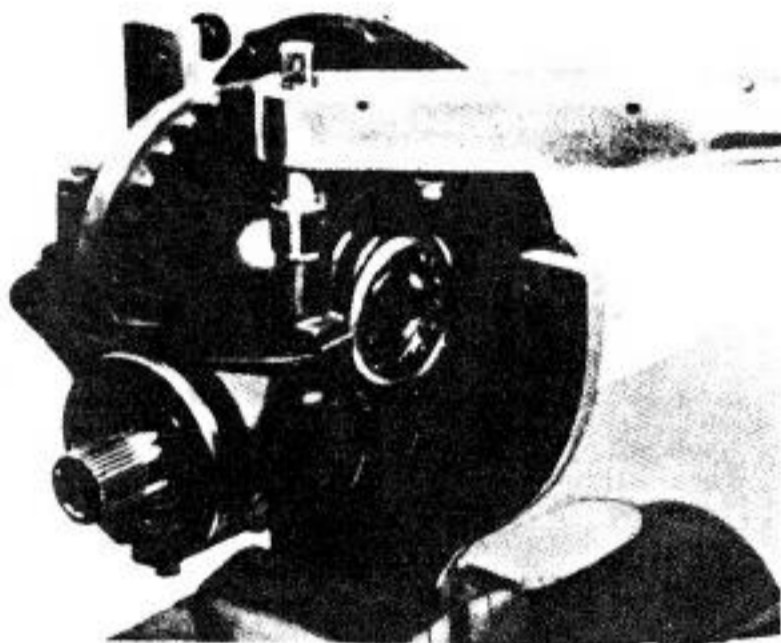

Fig. 11-17. Torquing bolts on the differential carrier bearing cap.
10. Install the bearing caps. Torque the bolts to 6.0 mkg (43 ft. lb.) as in Fig. 11-17.